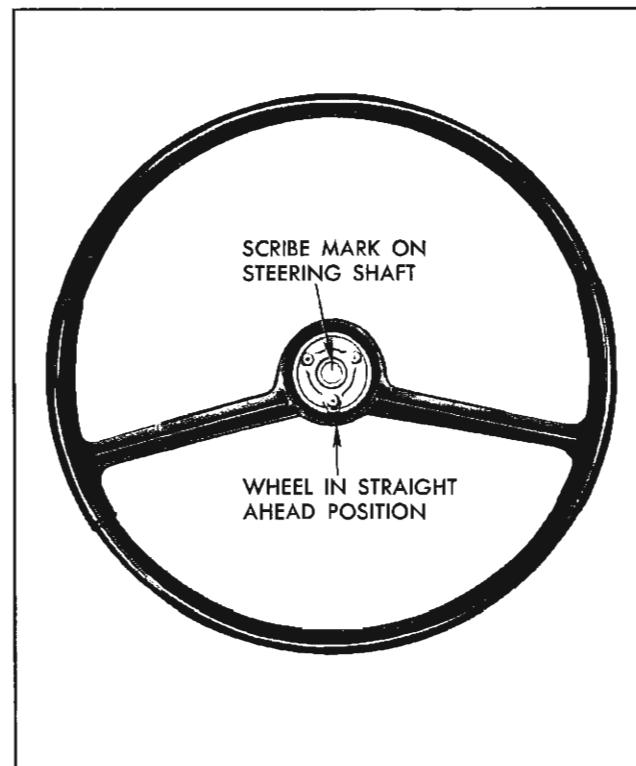

Fig. 9-7 Steering Wheel Installed
8. To replace, reverse the above procedure, making sure steering wheel is in straight ahead position (Fig. 9-7). Tighten steering wheel nut to $2\frac{1}{2}$ lb. ft. torque and stake.
3. Reassemble steering connecting linkage to pitman arm. Set spokes of steering wheel in straight ahead position (mark on steering shaft up, Fig. 9-7). If road wheels are not straight ahead, adjust steering tie rods.